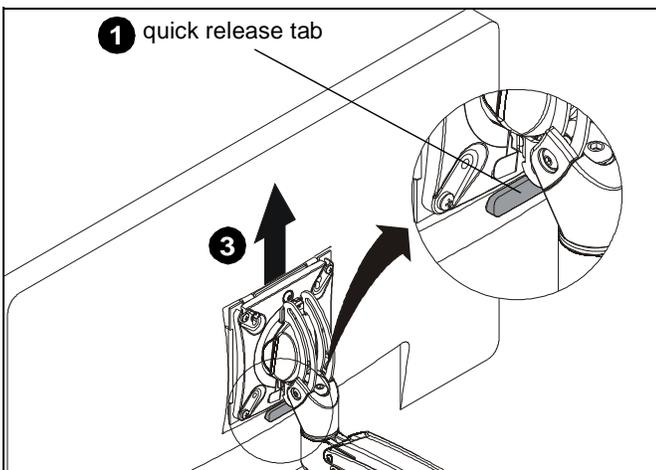
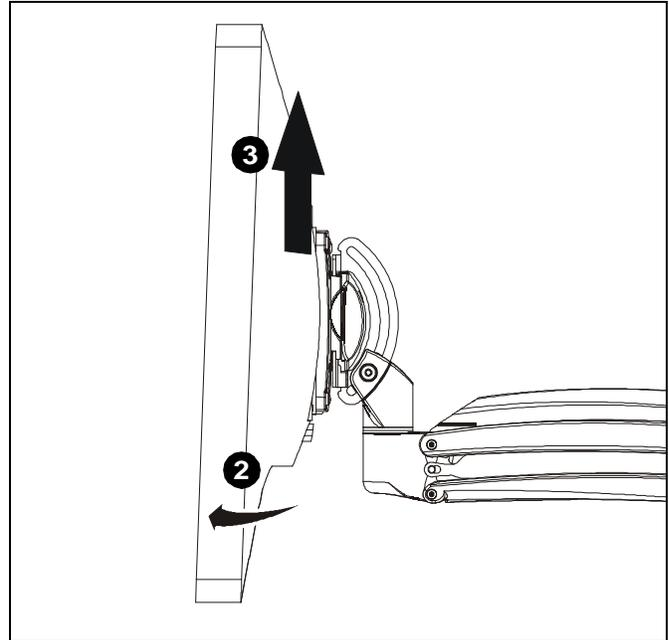

Figure 23
Figure 24
⚠ WARNING: Only remove display from mount when the display can be lifted up from the mount! DO NOT remove display unless the display is in the upright position! (See Figure 23)
1. Press quick release tab on back of display to release display from faceplate. (See Figure 23)
2. Pull bottom of display away from faceplate. (See Figure 24)
3. Lift display up from faceplate. (See Figure 23) and (See Figure 24)